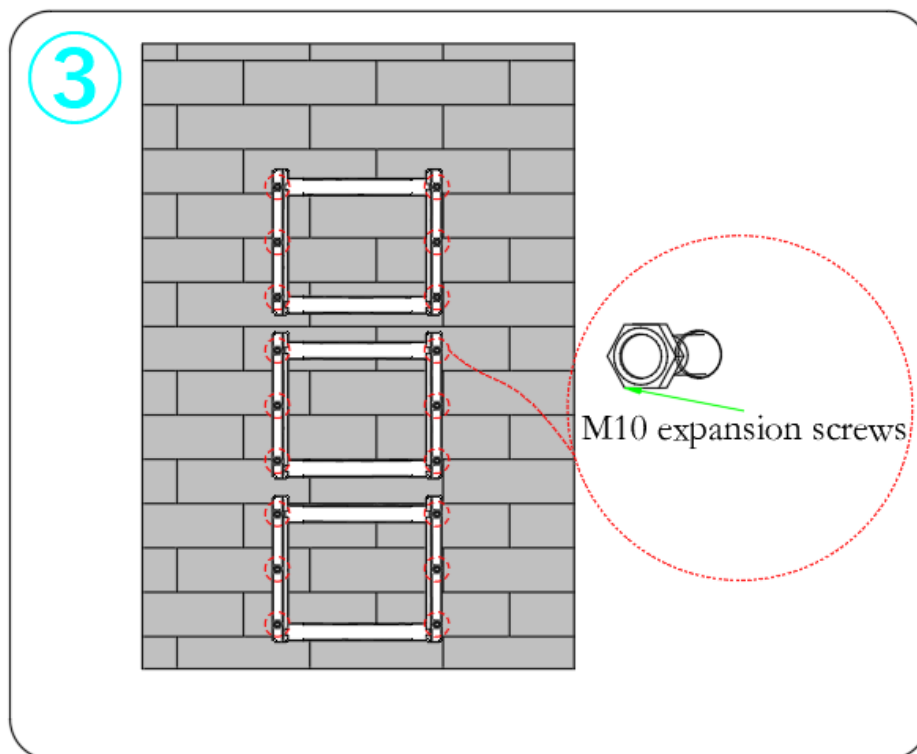

FIGURE 4.0: STEP3
- Step 3: Secure the pendant to the wall with M10 expansion bolts. The torque requirement is 10N·m. As shown in Figure 4.0